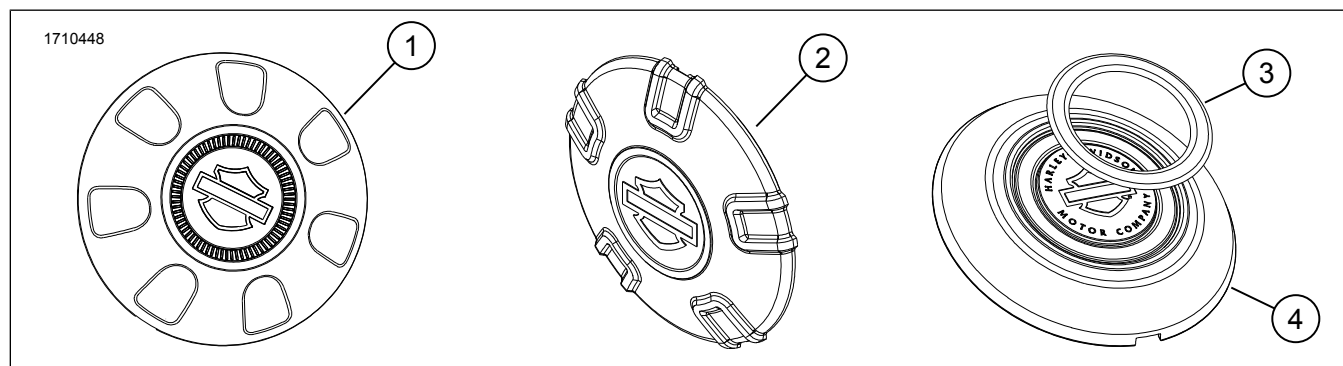

Figure 1. Kit Contents: Wheel Center Cover Kit
1. See Figure 1. Remove adhesive backing from hub cap ring (3).
2. Install hub cap ring (3) to hub cap (4).